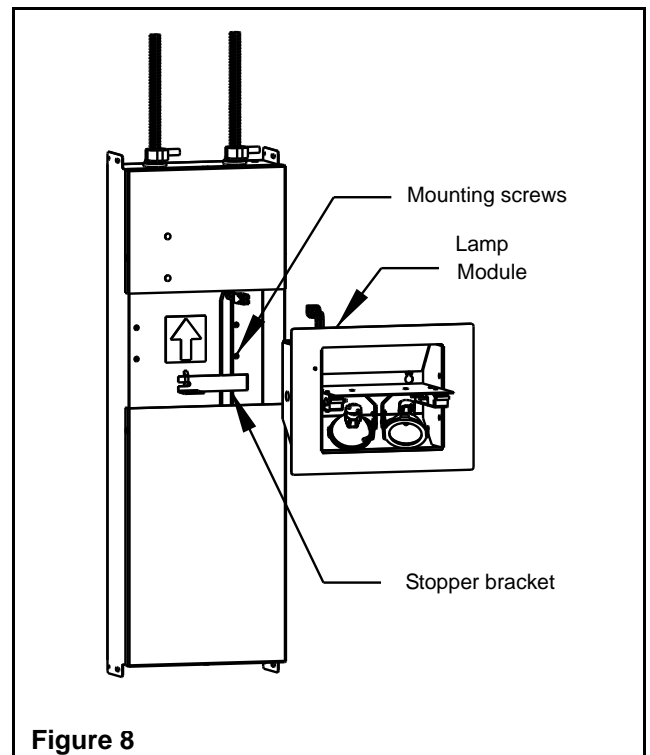

Figure 8
4. Place the two wires under the stopper bracket then slide the bracket towards the left into the slot all the way in the back-box (Figure 8).
7. Place the two wires under the stopper bracket then slide the bracket towards the left into the slot all the way in the back-box (Figure 8).
8. Place the two wires under the stopper bracket then slide the bracket towards the left into the slot all the way in the back-box (Figure 8).
### Lamp Module Installation (Figure 8)